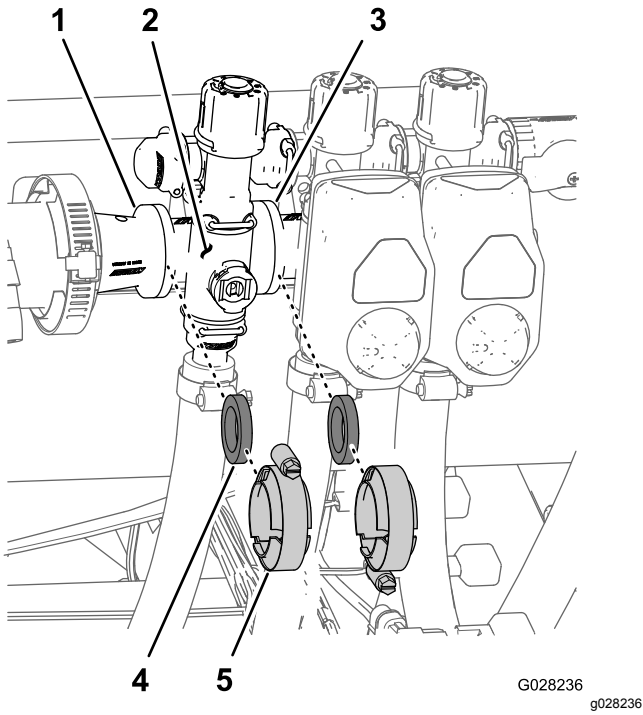

Figure 99
1. Remove the clamps and gaskets that secure the manifold for the section valve to the adjacent section valve (if left, section valve and the reducer coupling) as shown in Figure 99.